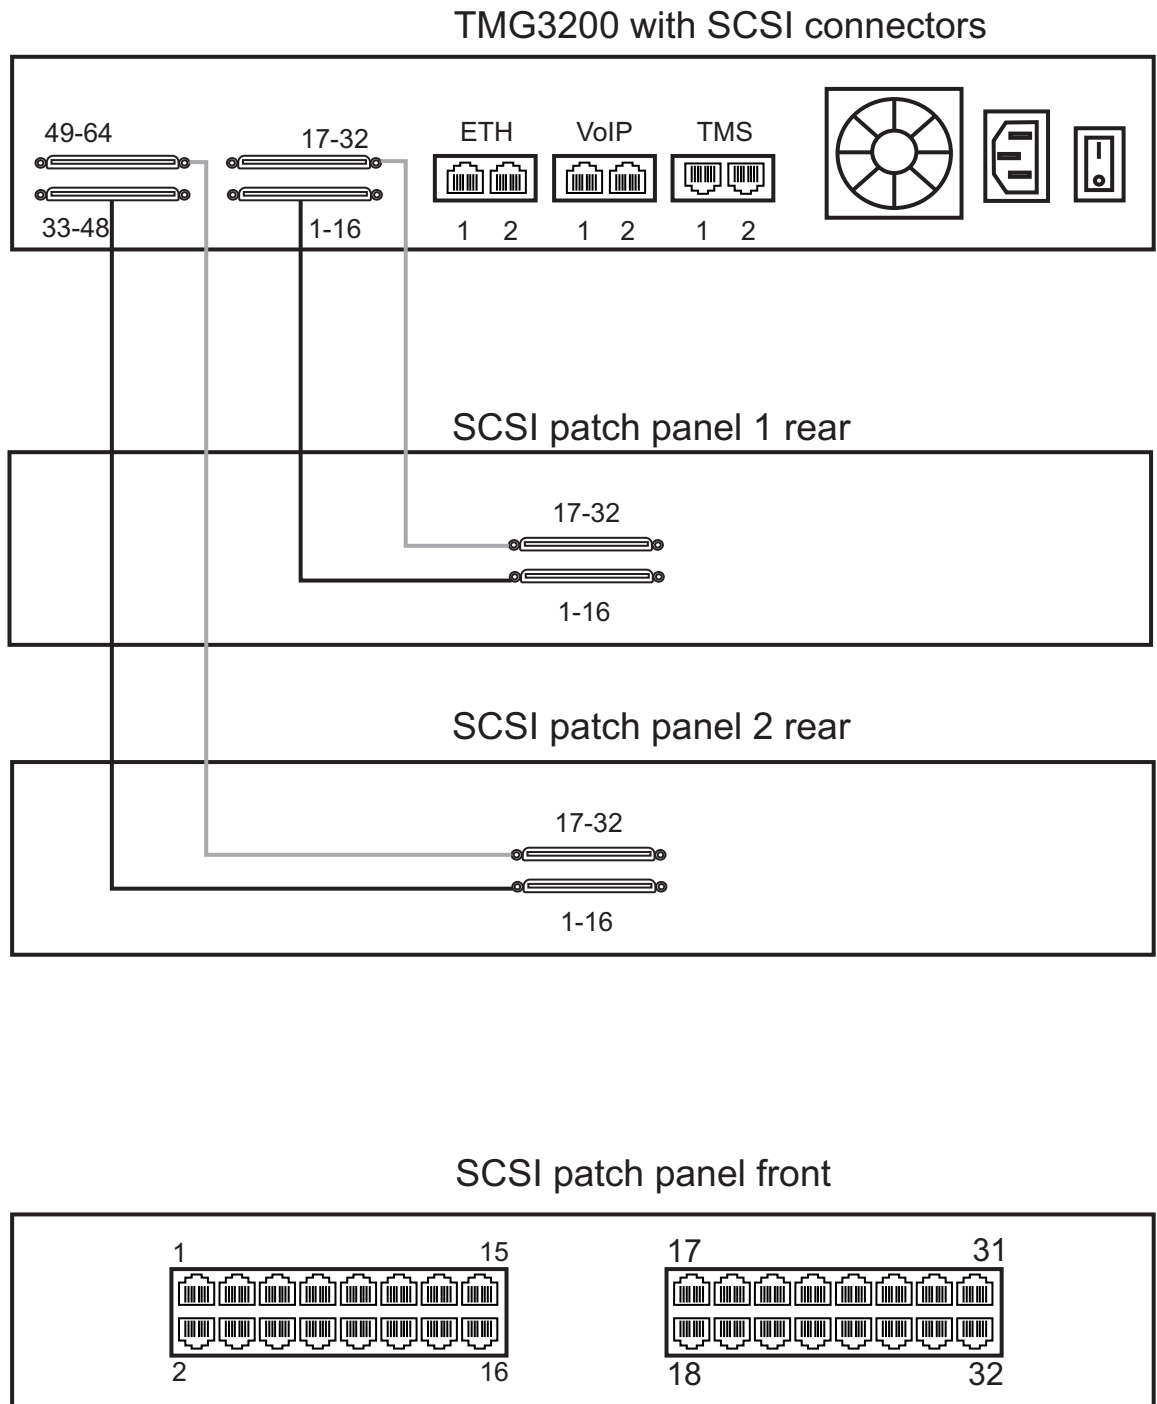

Figure 2.5 SCSI Interface to the PSTN
1. Start with the SCSI ports 1-16 located at the bottom right as shown in figure 2.5 on page 14. Connect one SCSI cable between this port and SCSI patch panel number 1, ports 1-16. Connect SCSI ports 17-32 to patch panel number 1, ports 17-32.